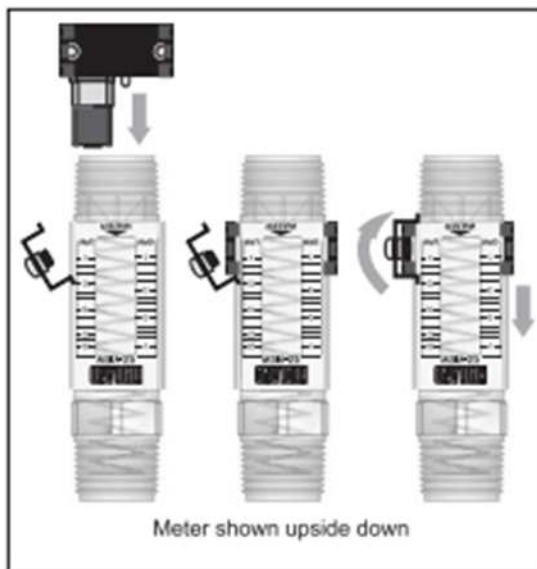
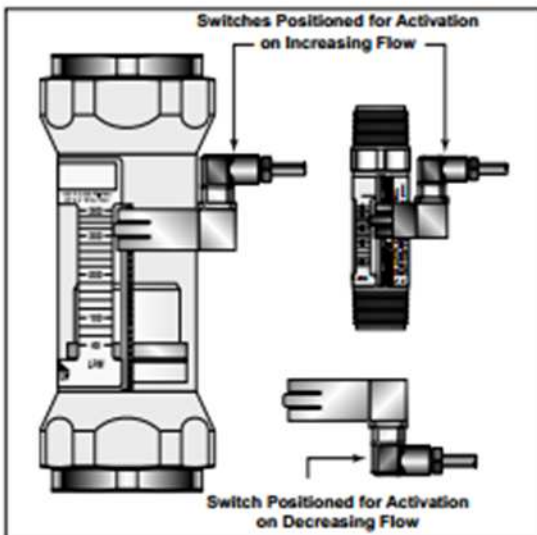

Figure 11. Latching Switch Installation
Figure 12. Latching Switch Installation
1. Install one end of the vibration locking kit onto the LPM side of the meters serrated rail as shown in Figure 11. Install the switch by placing the adjustment arms over the serrated rail from the inlet end of the 1/2", 3/4" and 1" meters, or the outlet end of the 1 1/2" or 2" meters. The direction of the connector and cable assembly indicates whether the switch will activate on increasing flow (connector and cable pointing up), or on decreasing flow (connector and cable pointing down). See Figure 12. Secure the other end of the vibration locking kit and tighten after positioning.